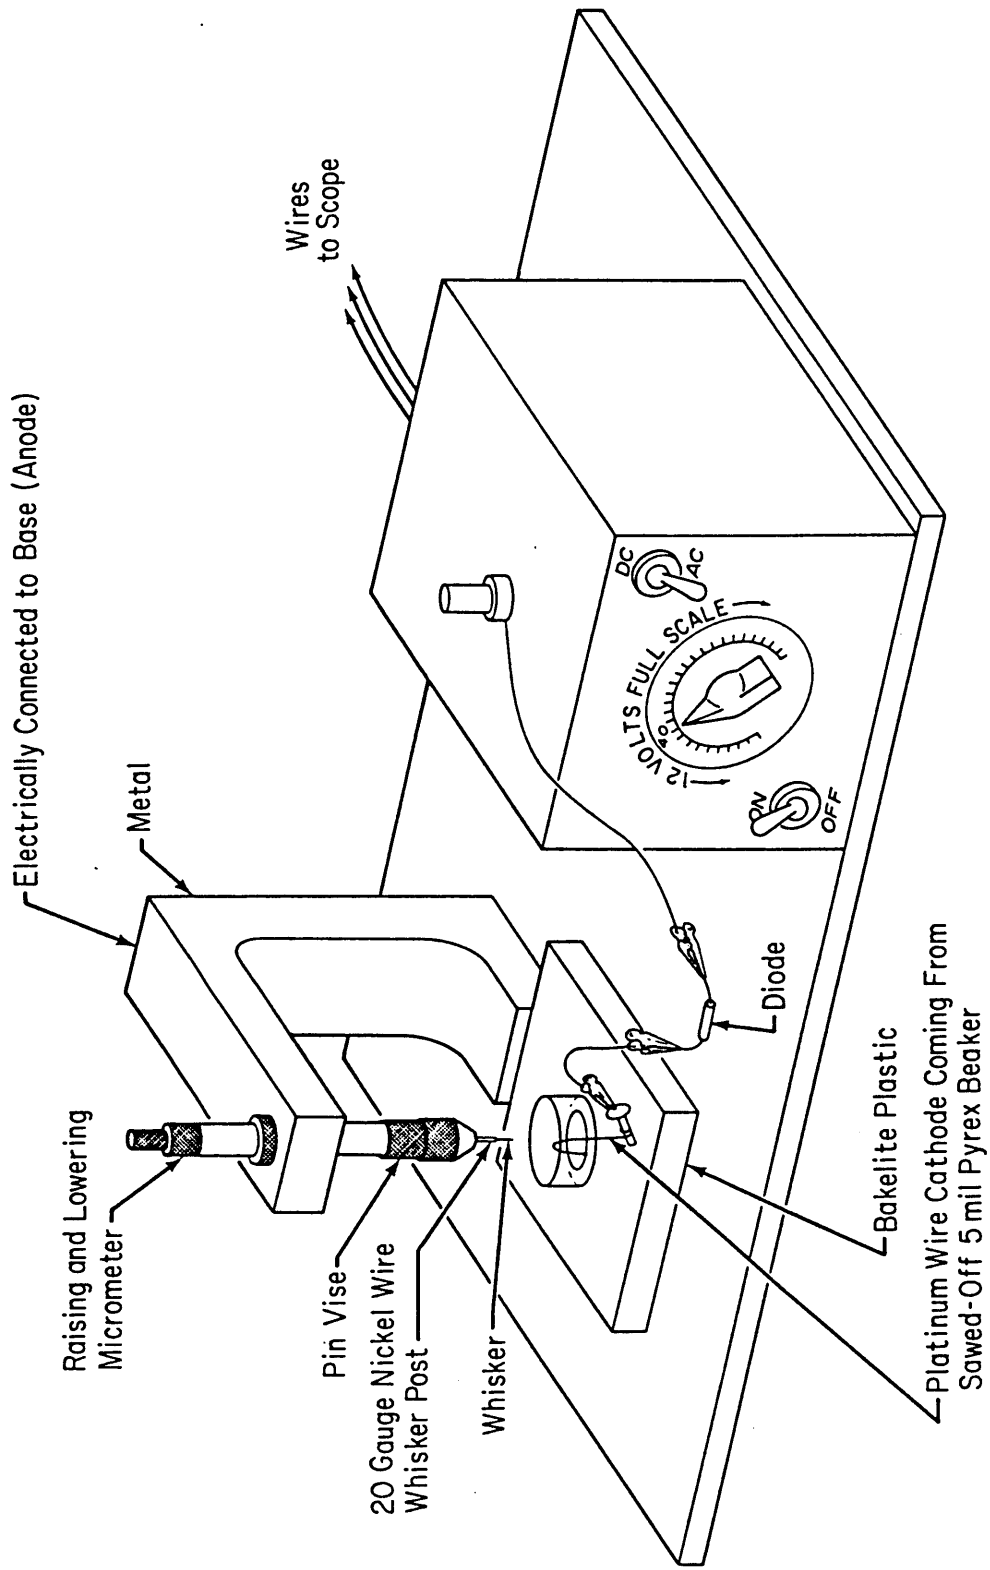

Fig. 6
10. Mount post in whiskering device. Twist micrometer until whisker tip is immersed 2 to 5 smallest units on the micrometer dial. (Fig. 6)